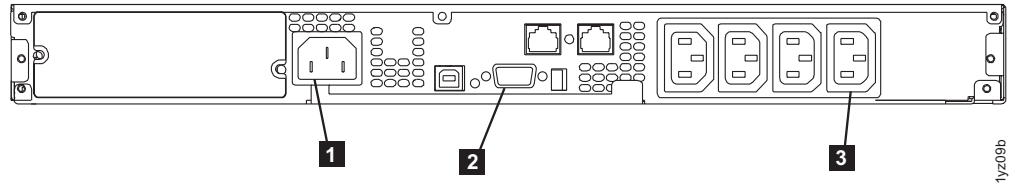

Figure 35. 2145 UPS-1U (rear view)
7. At the back of the 2145 UPS-1U, plug the 2145 UPS-1U main-power connector into the power socket (**1** in Figure 35 on page 41). The 2145 UPS-1U is in standby mode, so all indicators are off.